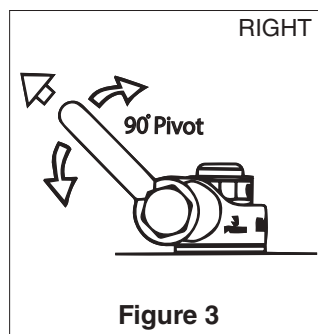

Figure 3
- Always ensure free movement of shackle. The shackle should pivot 90° and the hoist ring should swivel 360° (See Figure 3).